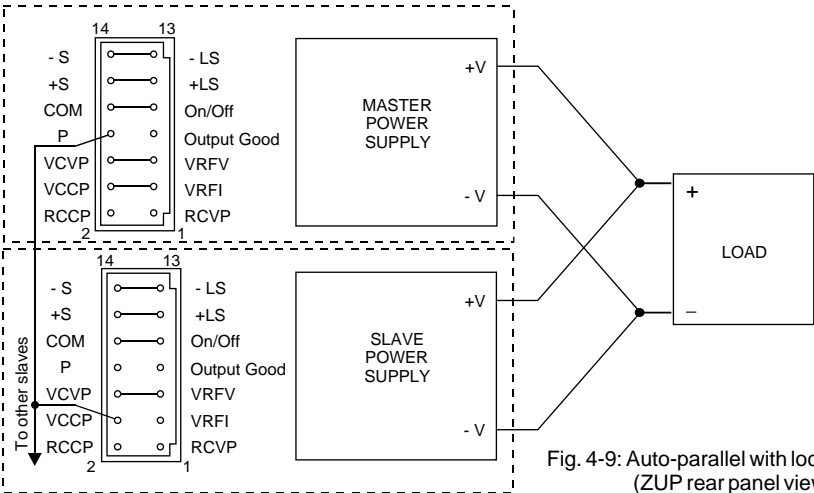

Fig. 4-9: Auto-parallel with local sensing (ZUP rear panel view)
- 6. Connection to the Load:** At auto-parallel mode, power supplies can be connected in local or remote sensing. Refer Fig. 4-9, 4-10 & 4-11 for typical connections of paralleled power supplies. The figure below shows connection of two units, however the same connection method applies for up to 5 units.